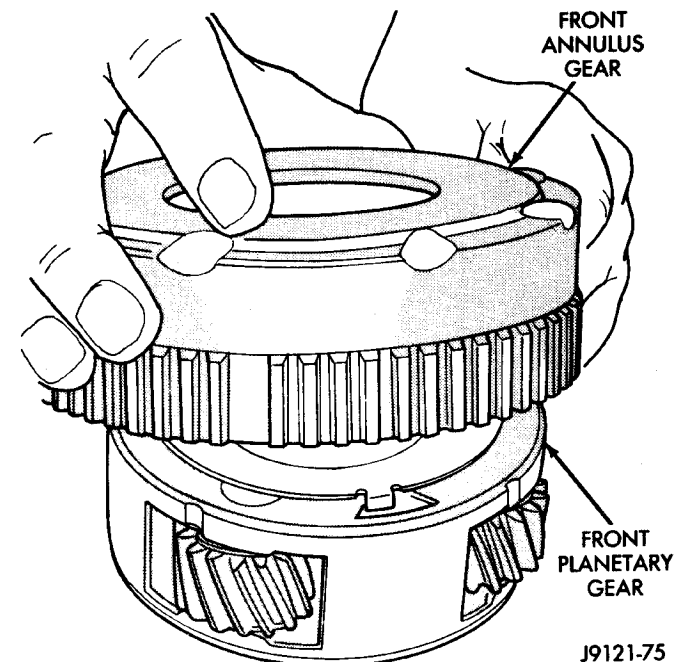

Fig. 189 Assembling Front Planetary And Annulus Gears
(11) Install front annulus gear over and onto front planetary gear (Fig. 189). Be sure gears are fully meshed and seated.